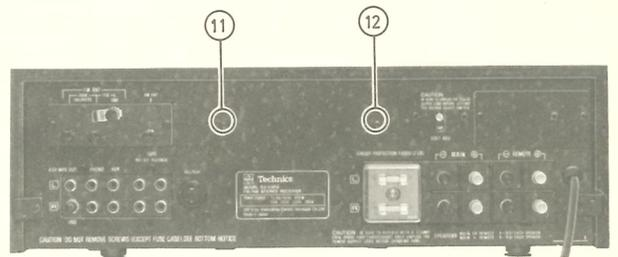

Fig. 3
3. Remove two (2) heat sink-mounting screws of rear panel, nos. ⑪ and ⑫ as shown in fig. 3.
6. Remove two (2) heat sink-mounting screws, nos. ⑪ and ⑫ as shown in fig. 3.